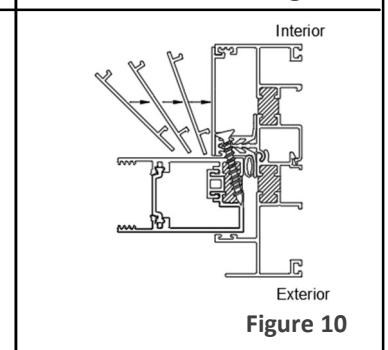

Figure 10
3.4d Engage pocket cover leg into interior jamb weatherstrip channel. Apply pressure to pocket cover starting at top working downward to sill (figure 10)